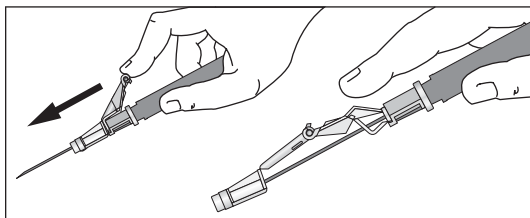

Figure 18
- Immediately activate needle protection device upon withdrawal from patient by pushing lever arm completely forward until needle tip is fully covered (see Figure 18).